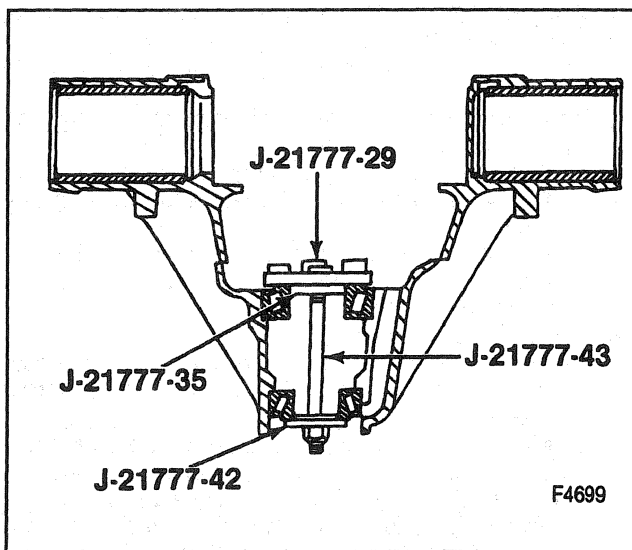

Figure 12—Gage Plate Tools
4. Install J 21777-35, J 21777-42, J 21777-29, and J 21777-43 to the pinion bore (Figure 12).